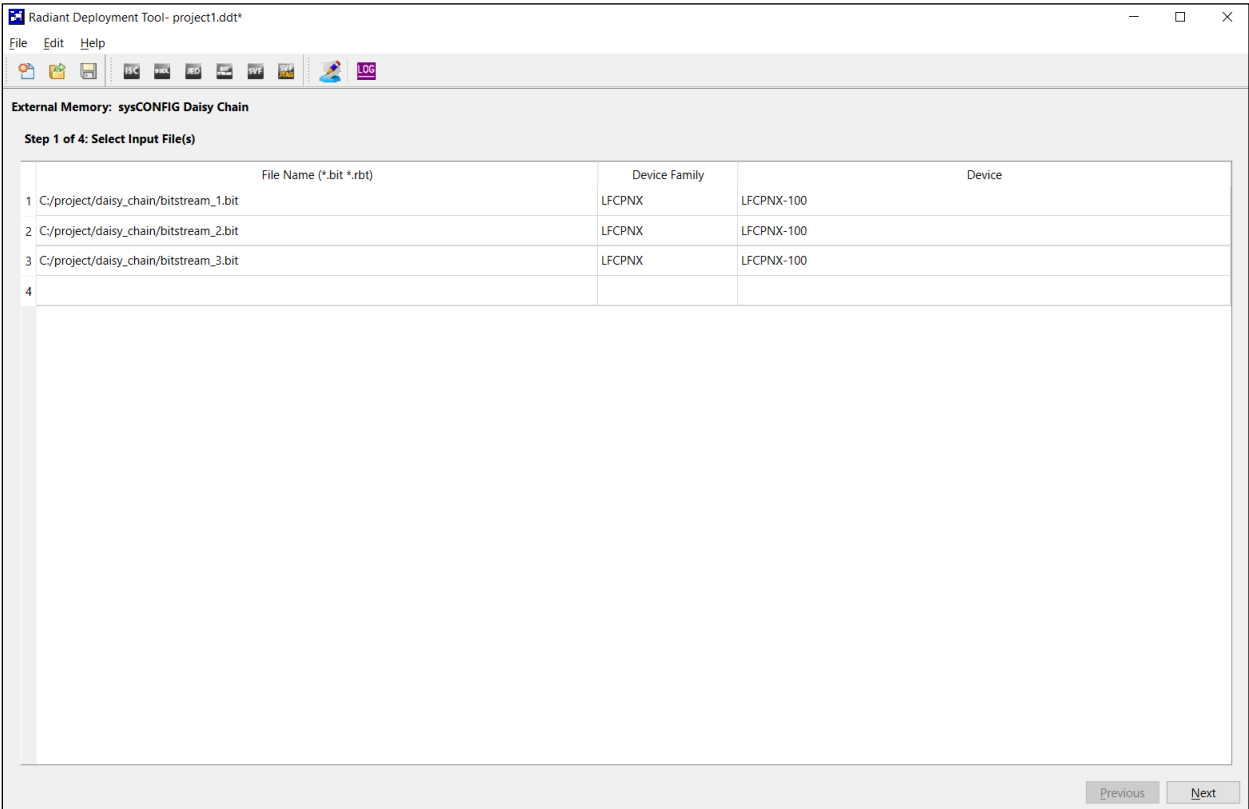

Figure 9.2. Select Input File(s) Window
Step 1 of 4: Select Input File(s) window (Figure 9.2)